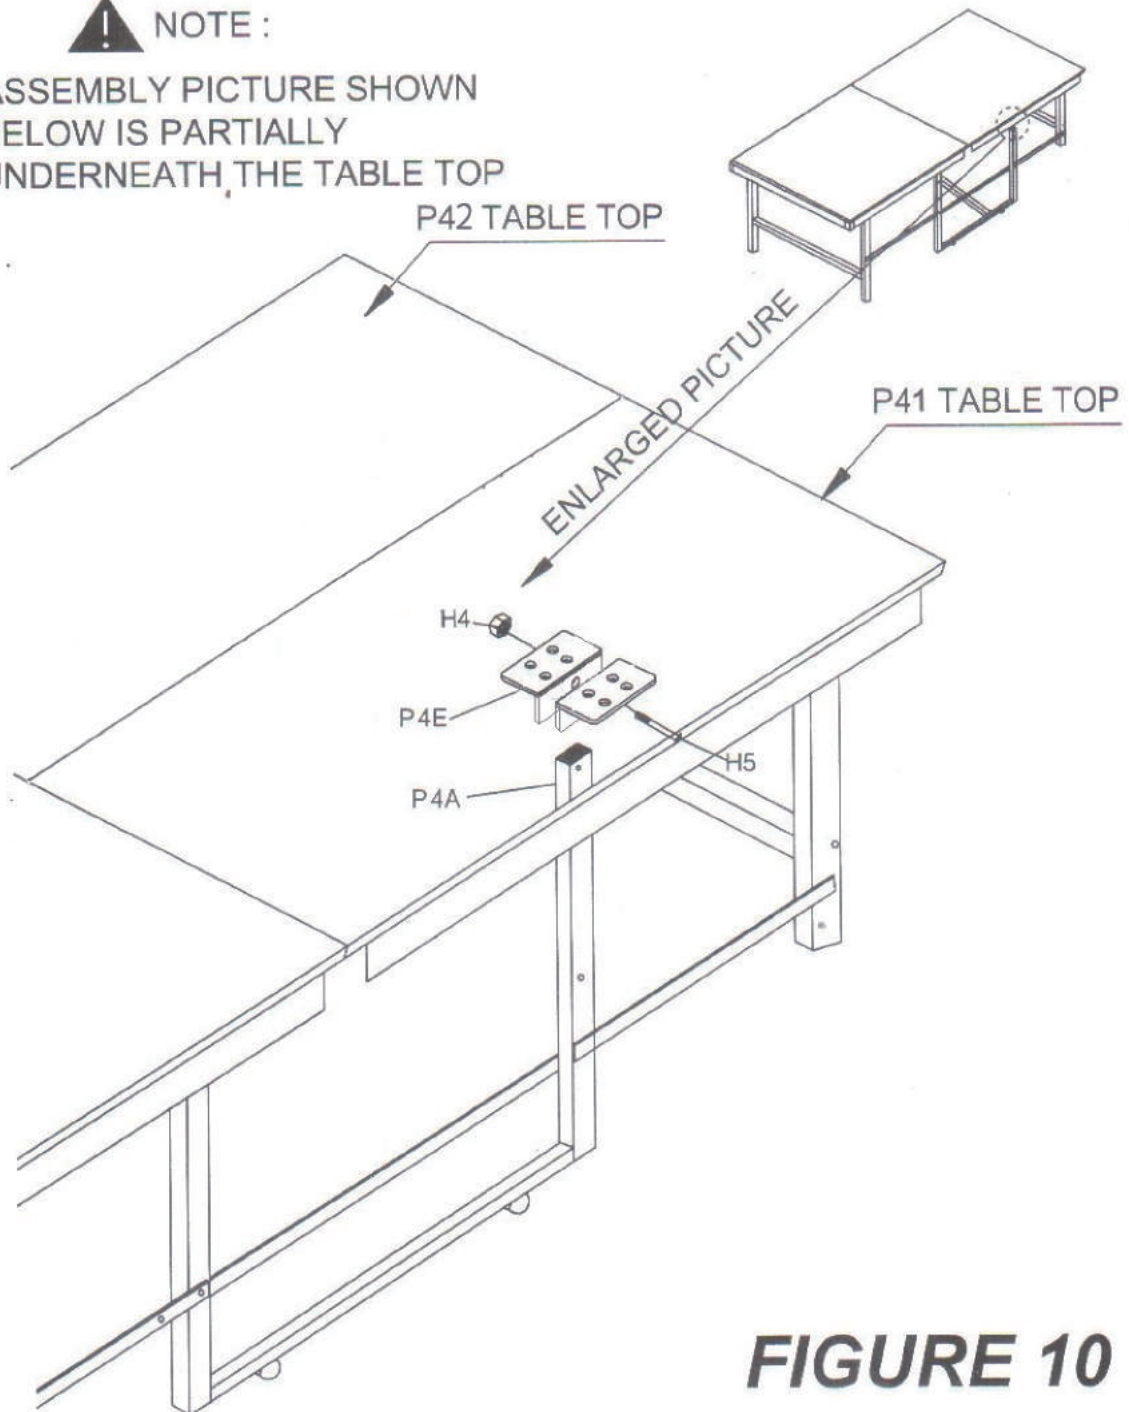

FIGURE 10
(Note : Be sure to have leg in steady position) , see figure 10 ;
STEP11 Attach the end of U leg tube underneath the table to tube bracket P4E with bolt H5 , nut H4 . see figure 10 ;